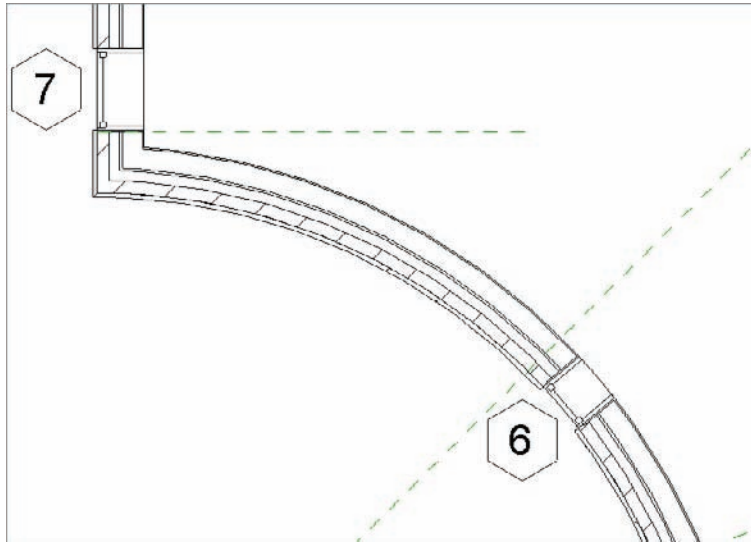

FIGURE 4.28 Place the window approximately in the area shown here.
1. Zoom in on the radial portion of the west wall, as shown in Figure 4.28.
4. Place the window in the radial wall, in a similar location as that shown in Figure 4.28. Do not attempt to “eyeball” the center of the window with the reference plane. As a matter of fact, purposely misalign the window.